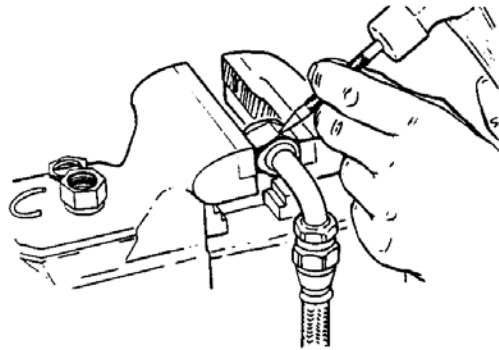

Figure 11: Setting retaining wire with punch
- d. Set retaining wire with a punch (**Figure 11**).